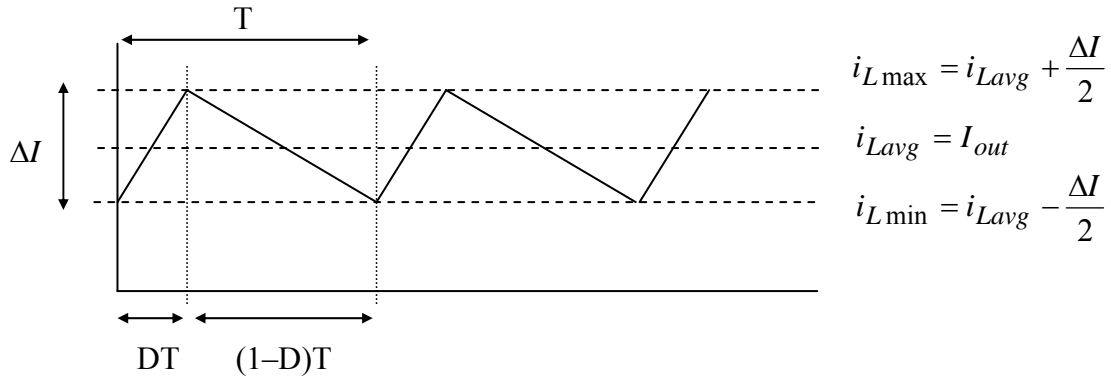
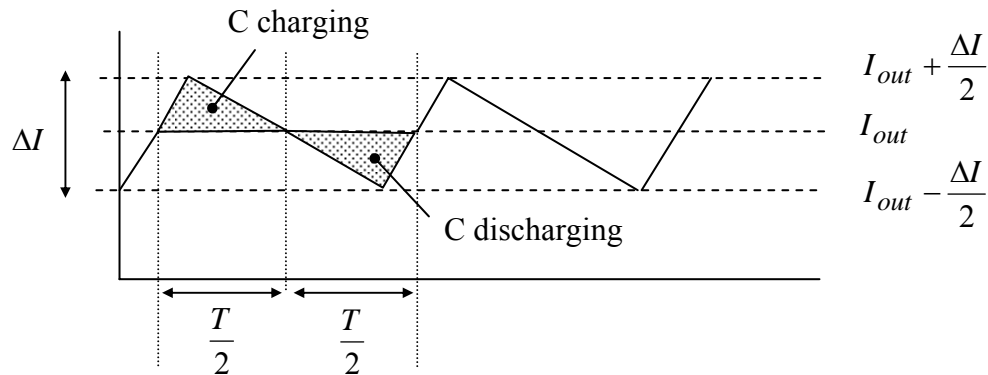

Figure 4. Inductor Current Waveform for Continuous Conduction
Figure 8. Inductor Current Graph Used to Illustrate Capacitor Charging and Discharging Intervals in Continuous Conduction
Equations (2), (3), and (5) provide the necessary information to draw a graph of i_L , as shown in Figure 4.
Through the definition of rms, it can be shown that the squared rms value of the triangular waveform in Figure 4 is
Then, considering Figure 4, capacitor C must be charging when i_L is greater than I_{out} , and discharging when i_L is less than I_{out} , as shown in Figures 8, 9, and 10.
Each charging and discharging area in Figure 8 lasts for $\frac{T}{2}$ seconds, and each area represents a charge increment ΔQ for the capacitor. The net charge flowing into the capacitor for one period must be zero in steady-state so that the capacitor voltage is periodic. Using
and the area of the triangular charging region in Figure 8, the peak-to-peak ripple voltage on C must be